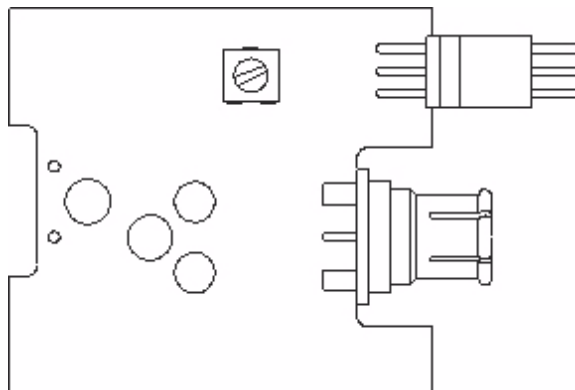

Figure 8-2. Adjustment Locations
6. Adjust **OUTPUT ZERO** on the board until the DMM reads 0 V $\pm$ 100 μ V. Refer to Figure 8-2 for adjustment location.